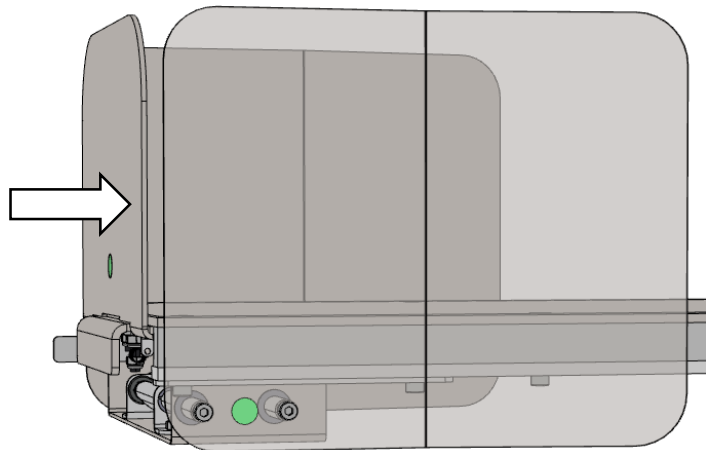

Fig. 4
- 4** Push the long sheet endstop towards the table (Fig 4) until the latch locks.